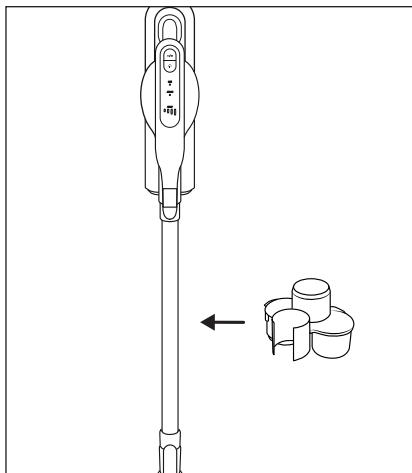

Fig. 16
- ◆ Attach the accessories holder **17** to the suction pipe **23** (see Figure 16).